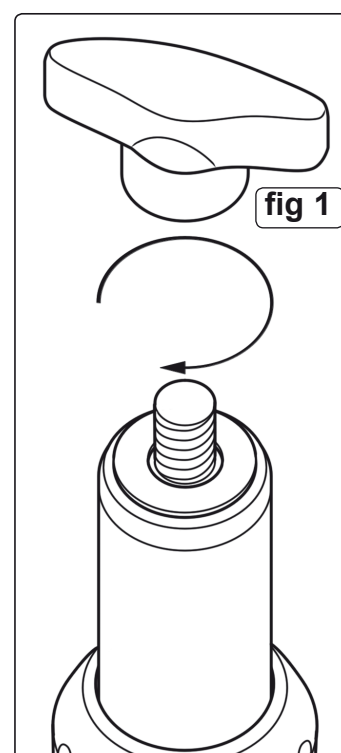

fig 1
3.1 FITTING LAMP TO THE STAND (FIG 1)